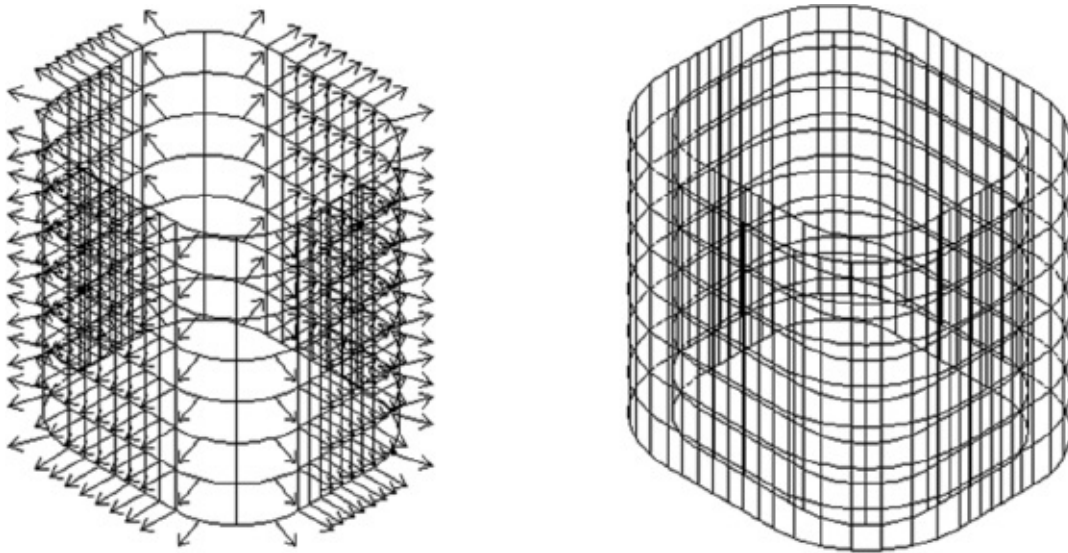

FIGURE 23.46 Using the Surface Offset tool
3. Click the surface in the drawing, and then press \leftarrow . You see a set of arrows appear, as shown in the left image of Figure 23.46.
6. Enter $0.5 \leftarrow$ for the offset distance. The offset surface appears around the original surface, as shown on the right in Figure 23.46.